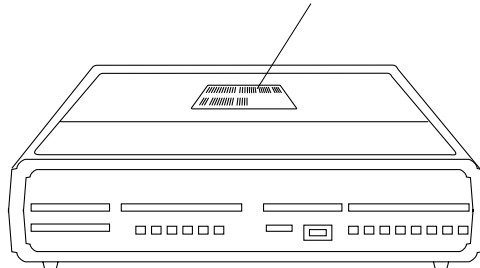

FIGURE 2-7 Determining the Version From the Serial Number Label
1. **Locate the Sun serial number label on the top panel of the terminal concentrator (FIGURE 2-7).**